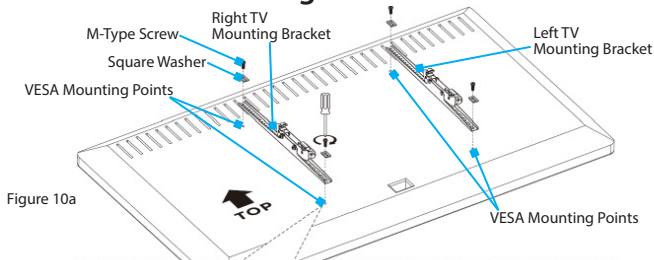

Figure 10a
2. Place the **TV** face-down on a protective/soft surface with the **VESA Mounting Points** facing up. (Figure 10a)
5. Position the **Left** and **Right TV Mounting Brackets** onto the back of the **TV** as shown, aligning with the **TV VESA Mounting Holes** and (Optional) **Spacers**. The **arrows** on the **TV Mounting Brackets** should be pointing towards the top of the **TV**. (Figure 10a)